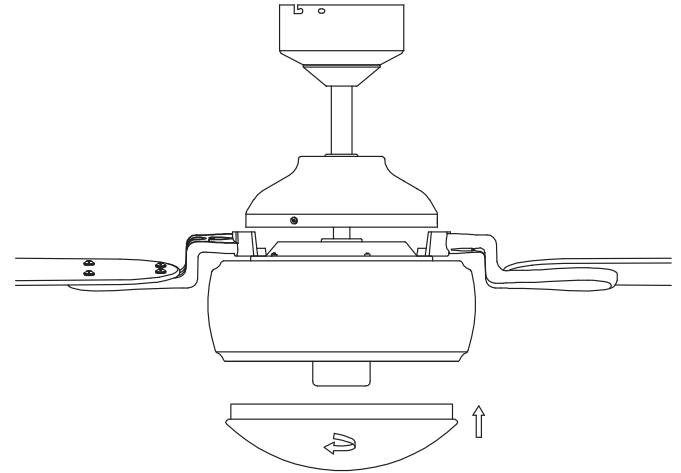

Fig. 18
**Step 1.** Raise glass shade to fan and then turn glass clock-wise until it is firmly secured. (Fig. 18)